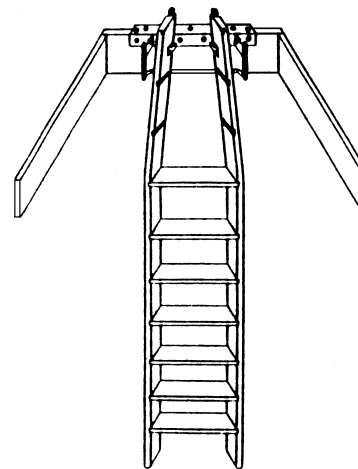
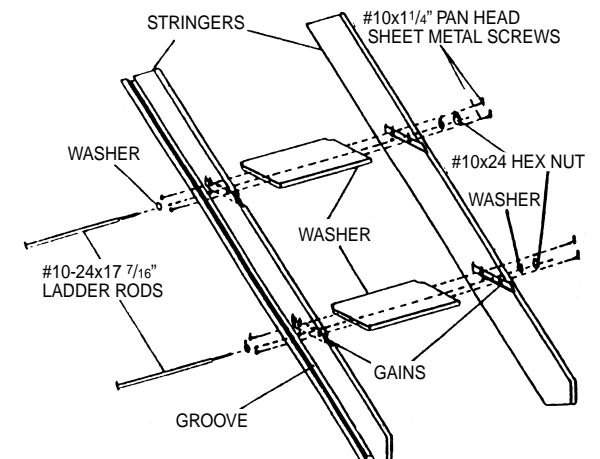

FIG. 2.
FIG. 3.
STEP 2. INSTALLING LADDER. Remove the ladder assembly from carton. (Set the handrail to the side for now.) Notice the top three treads are left out. When engaging the slide bars on part #5 and #10 it will be necessary to bend in slightly the top to the ladder to allow the slide bars to nest into the grooves (See Fig. 2.) Have your helper open the door panel to approximately 35 degrees. This door panel already has the cables and spring tension applied so care should be taken. Line the ladder up with the two brackets (#5 and 10). Carefully bend inward the top of the ladder and engage the slide bars on the panel bracket (#10) beyond the top stops riveted on both sides of the stringers. Slide the ladder up and repeat the process for the slide bars on the guide frame (#5). Lift the ladder up high enough to insert the ladder rods, washers, and nuts in the center holes provided but don't tighten the nuts yet, You'll notice two of the treads are 5-1/2" x 13" and one is 7-1/4" x 13". The wider tread is your top tread (#18). Insert the two grooved treads (#2) into the gains starting from the face of the ladder towards the back of the ladder (See Fig. 3.) Now insert the top tread. Tighten the ladder rod nuts at this time. Use the #10 x 1-1/4" Pan Head screws to secure the treads to the stringers. Insure treads are snug in the bottom of the gains. After tightening, measure the front and back of the ladder to insure it is 14" wide. Insure all ladder rod nuts are tight at this time.